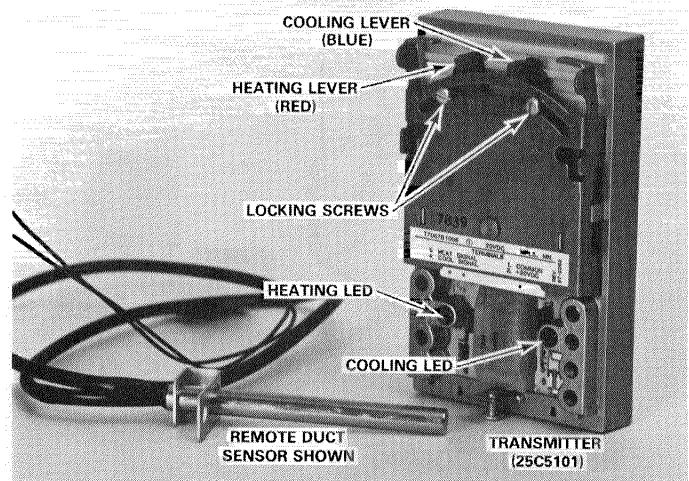

FIGURE 9
- 1 - The transmitter functions the same as the thermostat, except that it only contains the heating-cooling set point levers and must be used with a remote sensor (thermistor). Figure 9 shows transmitter with a remote duct sensor.